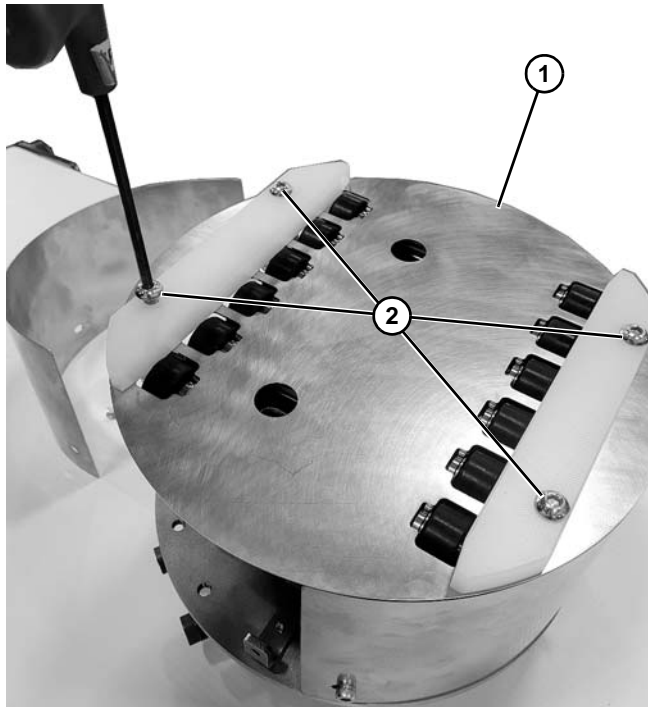

Figure 66
2. Remove top cover (**Figure 66, item 1**) by removing four screws (**Figure 66, item 2**).